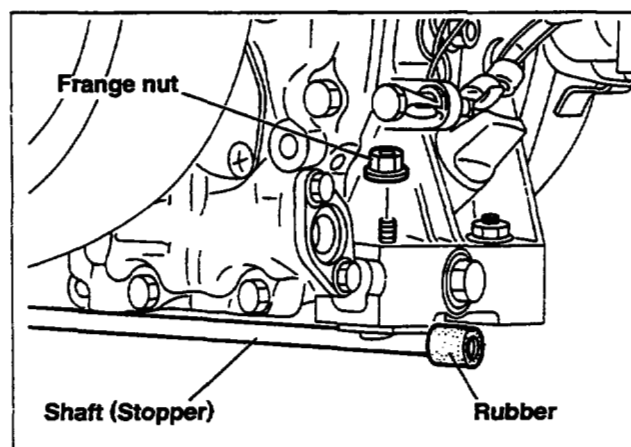

Fig. 10-36
- (6) Cover the both ends of SHAFT (STOPPER) with RUBBERS. Push RUBBERS until they touch the crankcase. (See Fig. 10-36.)